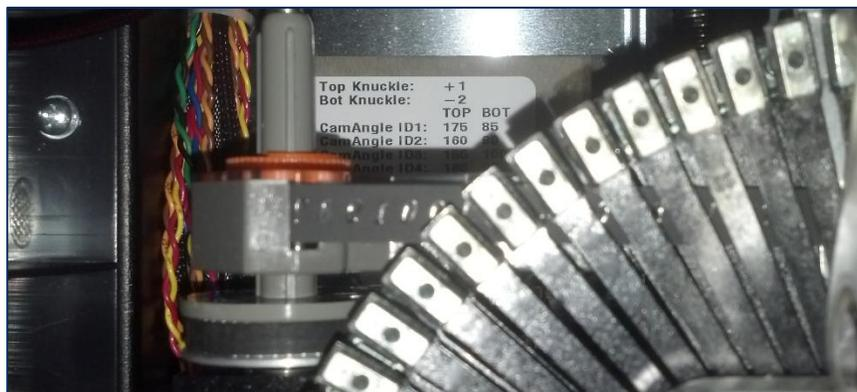

Figure 3-11 - Factory Default Knuckle and CamAngle Settings (TOP VIEW FROM FRONT)
- 1) Locate the factory default knuckle and Cam Angle settings on the base of the embosser, as shown in **Figure 3-11**.